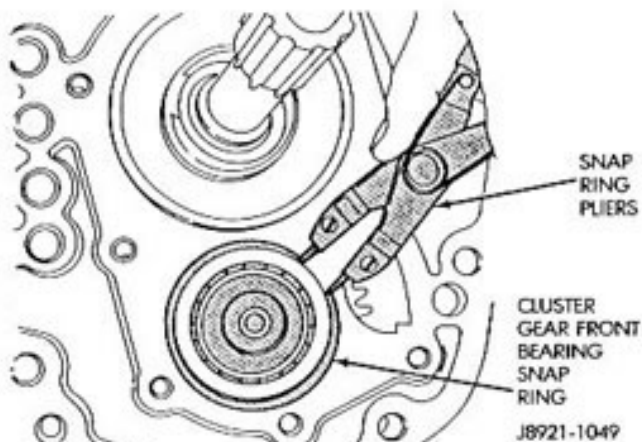

Fig. 19 Removing Cluster Gear Front Bearing Snap Ring
(4) Remove the cluster gear front bearing snap ring (Fig. 19).